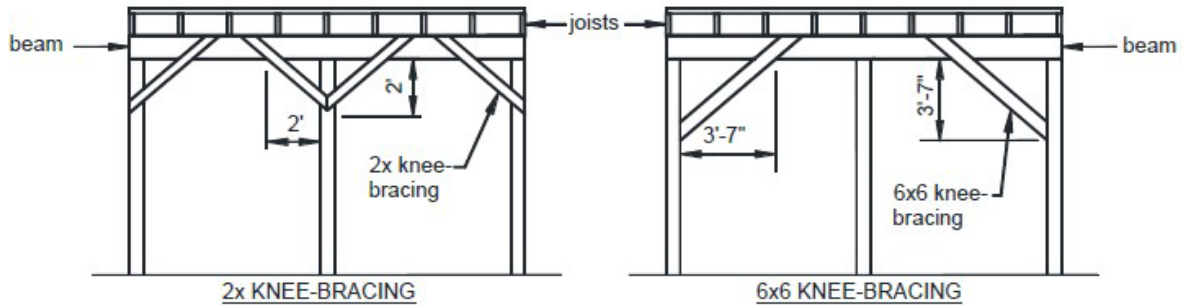

FIGURE 20 - KNEE BRACING AT BEAM
- Decks shall have 2x knee-bracing installed at each post-beam location or 6x6 knee-bracing at end posts and both sides of every other interior post in accordance with Figure 20.